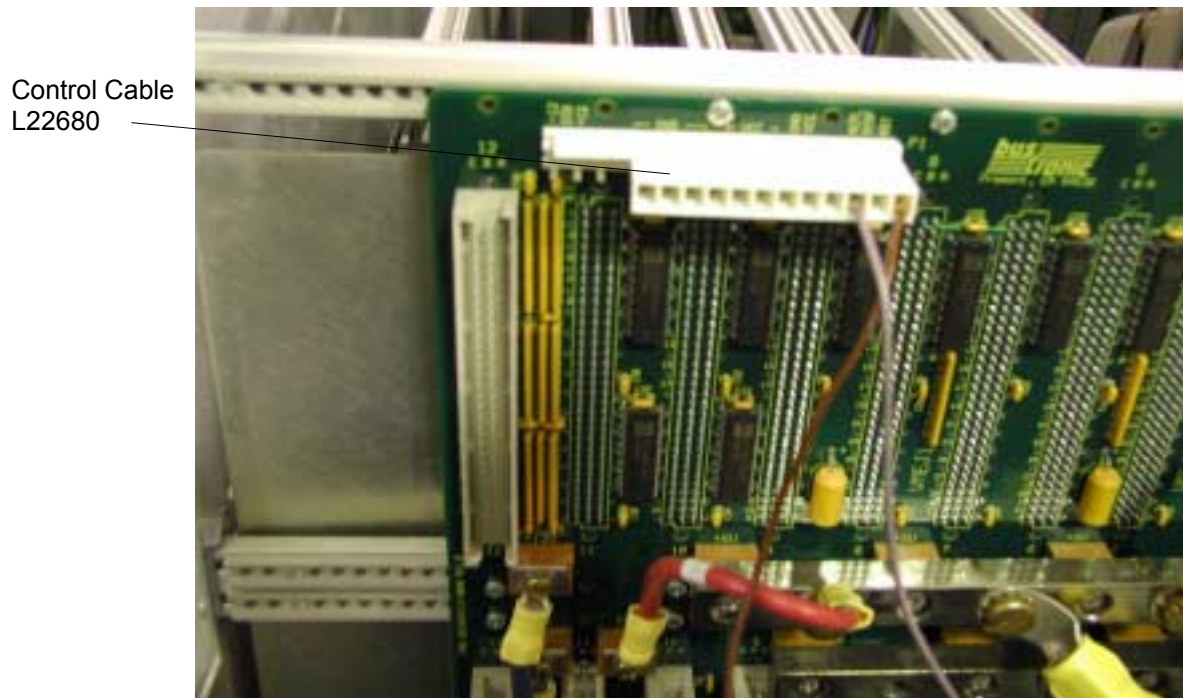

FIGURE 340 CONTROL CABLE L22680 CONNECTION TO J1/J2 BACKPLANE
6. Install connector J1 of Control cable L22680 into the 12-pin connector P1 on the top of the J1/J2 backplane. Secure with tie wraps. Refer to Figure 340.